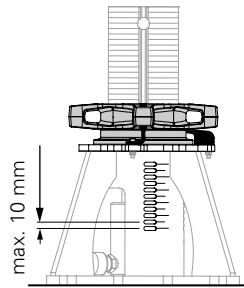

Fig. A5.09
- Cylinder stroke is limited to 10 mm. This corresponds to the spacing of the slotted holes in the Lowering Spindle. (Fig. A5.09)